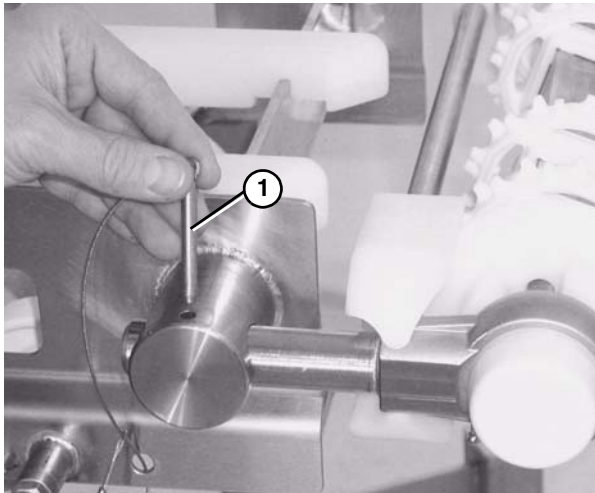

Figure 46
2. Remove the pull pin (Figure 46, item 1) on the tension end of the conveyor to release belt tension.